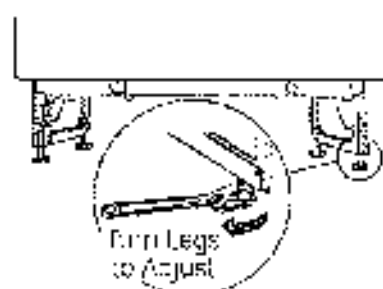

Figure 5
- Adjust the level of the dishwasher by individually turning the four legs on the bottom of the dishwasher as illustrated in Figure 5.